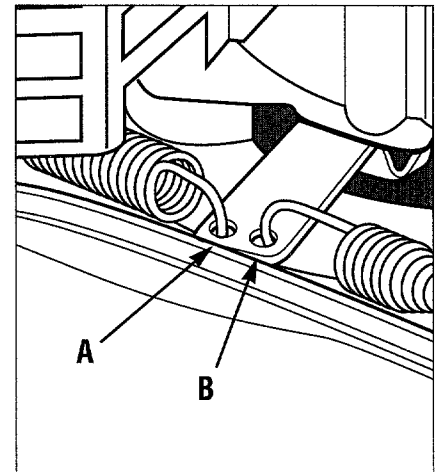

Figure 5-15: Install Blade Brake Control cable and spring.
J. Place the belt around the Blade Brake Control plate (**G**, Figure 5-15) and up through the deck opening at the front of the engine. Slide the belt around the Blade Brake Control arm (**F**).
N. Replace the Blade Brake Control cable spring (**B**, Figure 5-15).
O. Using needle nose pliers, replace the Blade Brake Control spring (**A**, Figure 5-15) onto the the Blade Brake Control arm.